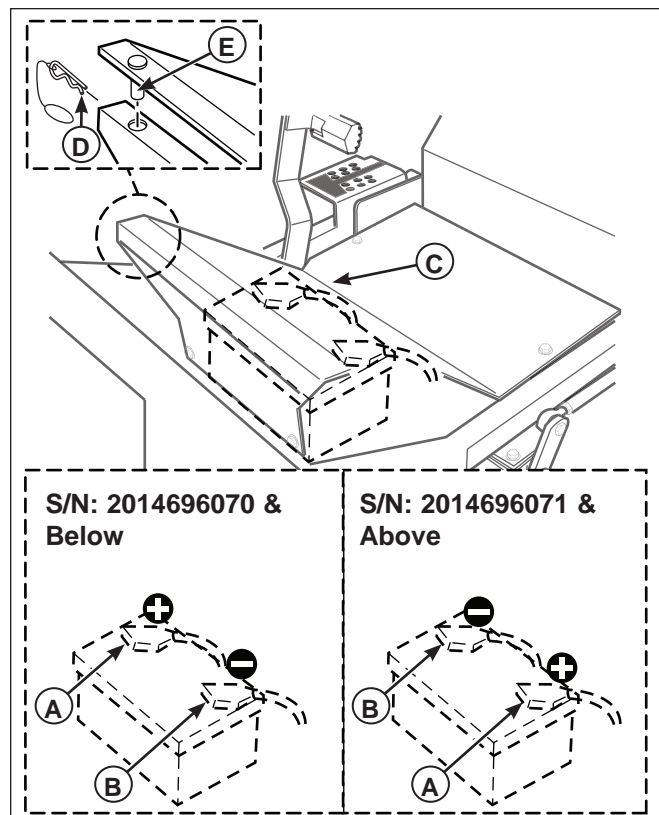

Figure 28. Battery Compartment
1. Tilt the left side of the floor pan (C, Figure 28) up so that the locking pins clear the holes in the frame. Slide the floor pan to the left until it stops.